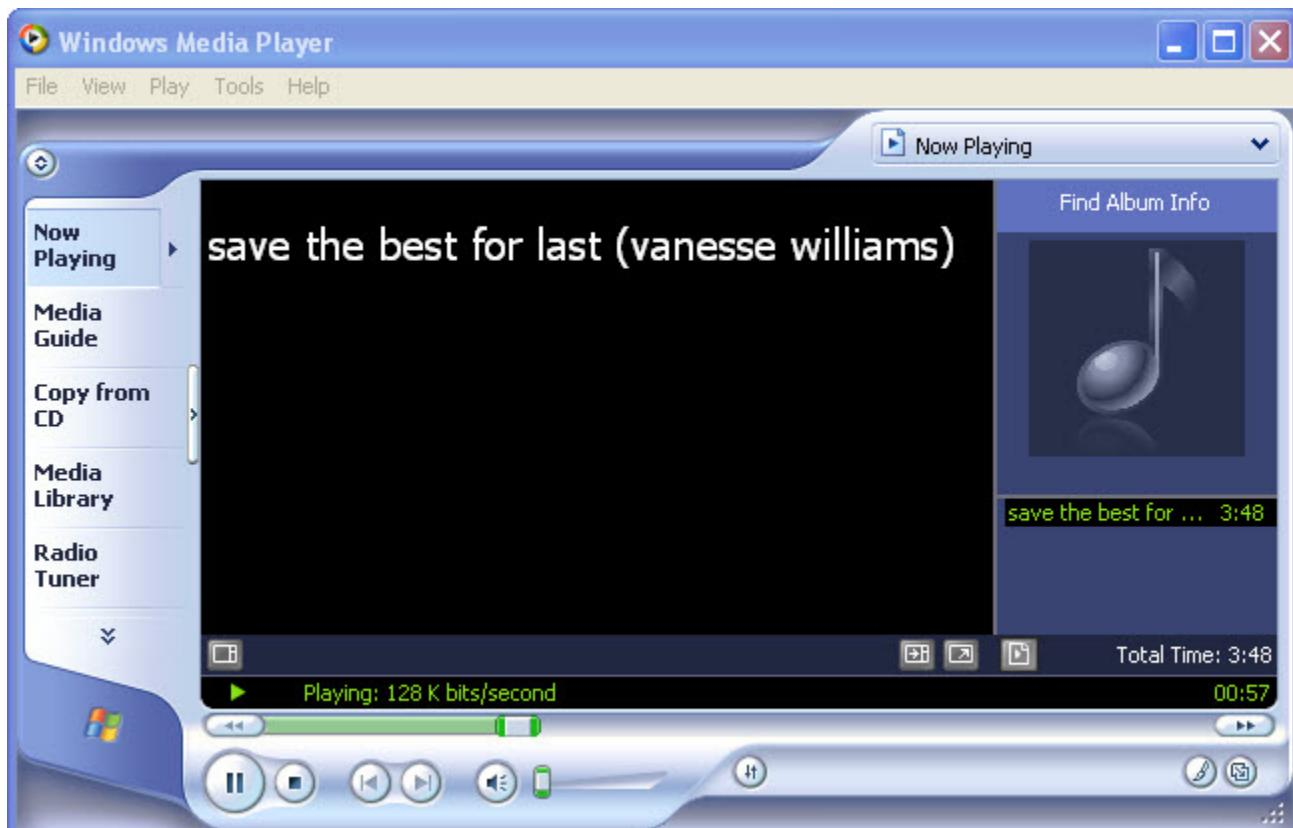

Figure G-13. Window Media Player
- f) Open the Window Media Player application Figure G-13 and then select and listen to your favorite audio; you can hear the song clearly.